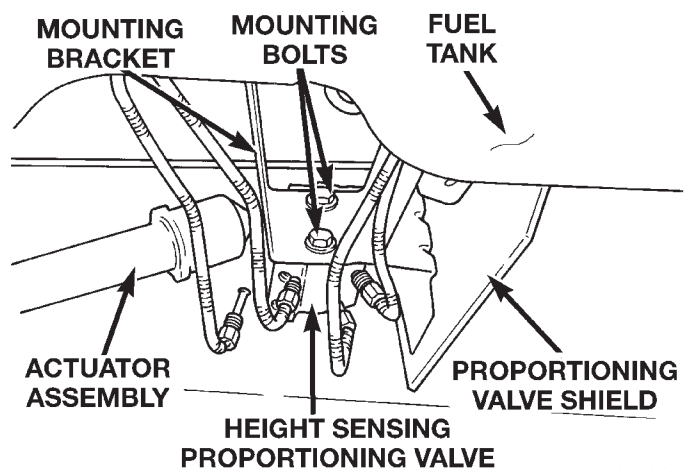

Fig. 135 Proportioning Valve Mounting
(4) Remove the 2 bolts (Fig. 135) attaching the proportioning valve to the proportioning valve mounting bracket. Remove the proportioning valve from the mounting bracket.
NOTE: When installing height sensing proportioning valve on mounting bracket be sure proportioning valve shield (Fig. 135) is installed between the proportioning valve and the mounting bracket.
(2) Install height sensing proportioning valve on mounting bracket. Install the proportioning valve attaching bolts (Fig. 135). Tighten the attaching bolts to a torque of 23 N·m (200 in. lbs.).